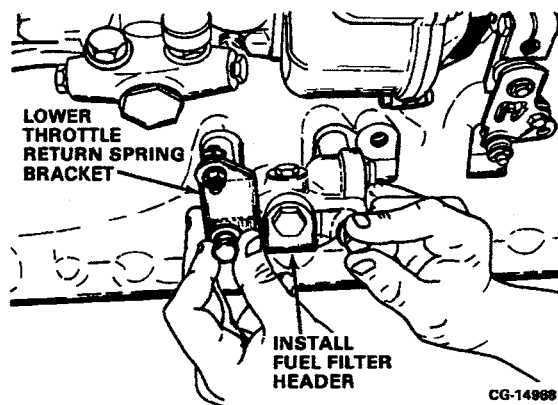

Figure 11.44. Install the Fuel Filter Header
8. Install the fuel filter header as follows: (Refer to Figure 11.44)